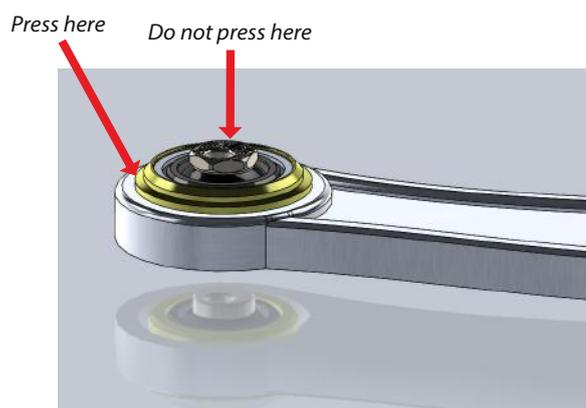

Figure 1 - showing the larger diameter on the upper face of the arm
**WARNING: Do not press on the centre sleeve/ball of the unit. Press on the metal outer shell to avoid damaging the bush as shown in Fig 1.**